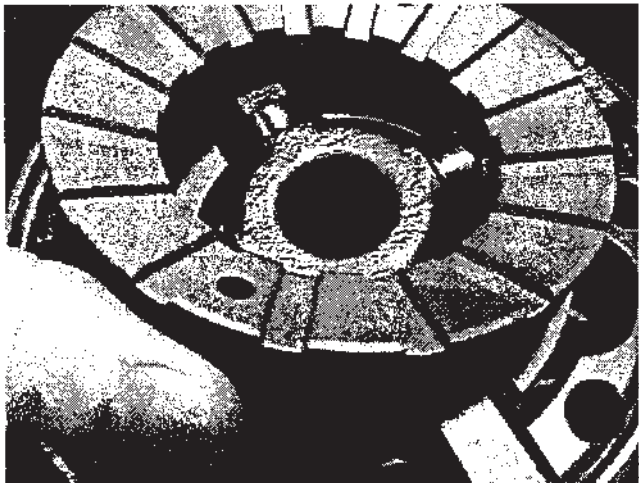

Figure 6
7. **Hold the second driver** upside-down and carefully place it on top of the first driver so that the pins fit into the spring holes (**Figure 6**).